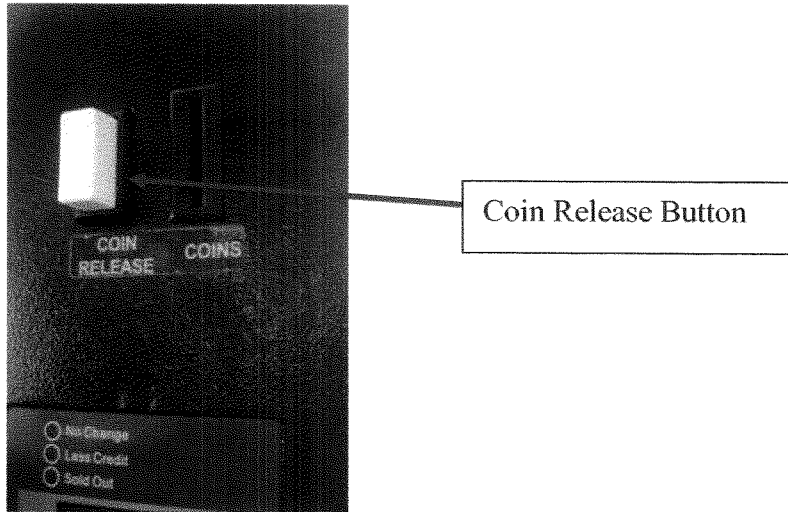

Figure 29 – Press coin release button to clear coin jam
- To clear coin jams press the coin release button (reference figure 29).